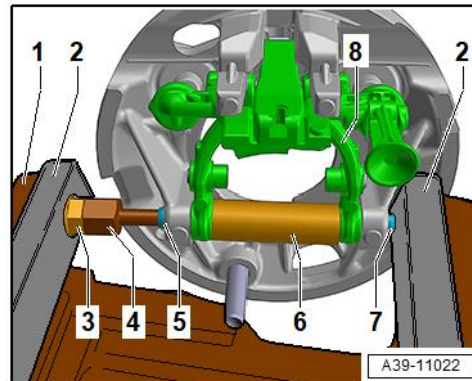

Figure 12. Pin removal.
9. Install an M8 flange nut (Figure 12, position 3) onto the T10172/9 (Figure 12, position 4).
Tension the gear carrier in the vise as shown (Figure 12, position 1) using the plastic or brass soft jaws (Figure 12, 2). You may need a 2nd technician to assist you in holding the carrier.
Position the sleeve provided in the repair kit Part # 0B0 598 082 (Figure 12, position 6) between the shift fork (Figure 12, position 8).
Press out the bearing pin (Figure 12, position 5) until the thrust piece stops (Figure 12, position 4).
The bearing pin (Figure 12, position 5) remains in the shift fork (Figure 12, position 8) together with the sleeve (Figure 12, position 6).